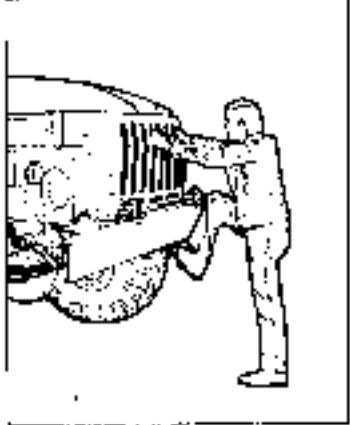

Fig. 6 How to Climb the Bumper Using Step and Radiator Grill Rails
5. For climbing the truck bumper, use the step, central and extreme left ribs of the radiator grill, having inserts from the inside (Fig. 6).